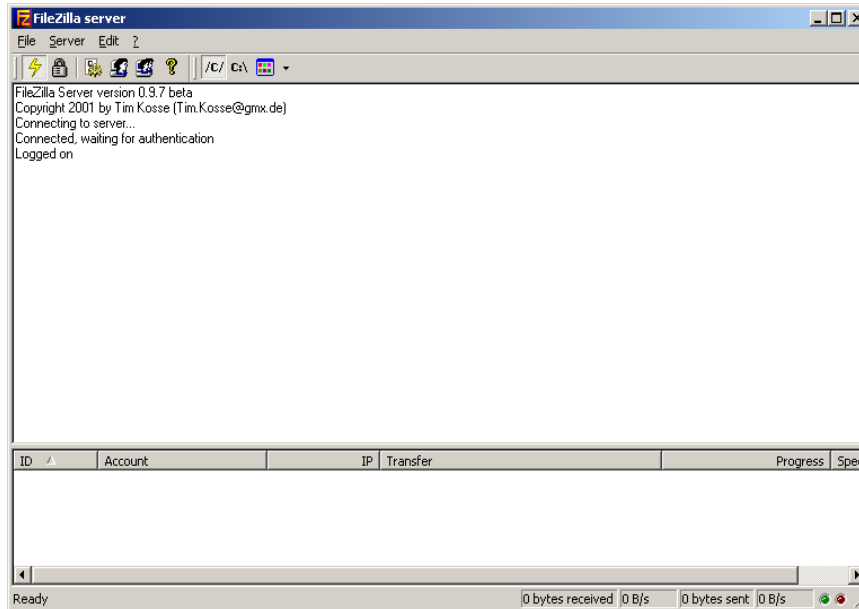

Figure 3-10: FileZilla Window
2. The FileZilla server window is displayed (Figure 3-10).